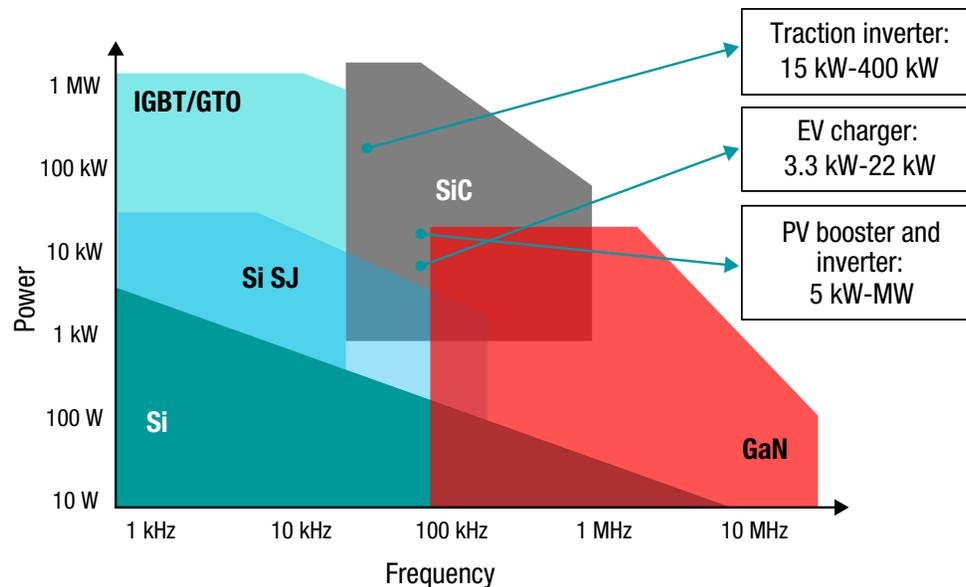

Figure 1: Power semiconductor device applications based on power and frequency levels
Specifically, applications with bus voltages >400 V require device voltage ratings >650 V to leave sufficient margin for safe operation. Applications including industrial motor drives, electric vehicles/hybrid electric vehicles (EVs/HEVs), traction inverters and solar inverters for renewable energy are at the power level of a few kilowatts (kW) to a megawatt (MW) and beyond. Applications for SiC MOSFETs and IGBTs are at similar power levels, but split as the frequency increases, as shown in **Figure 1**.